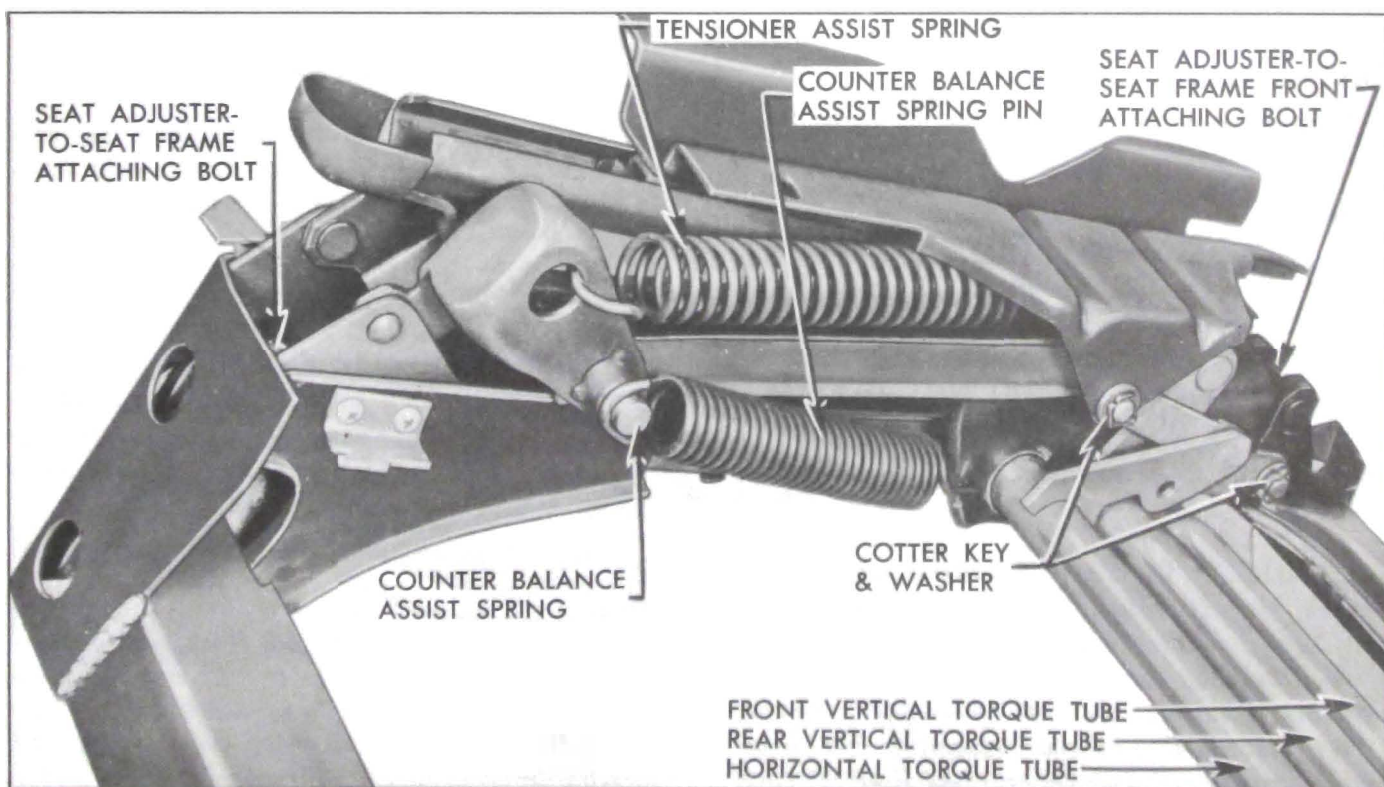

Figure 13-80—Front Seat Adjuster—Right
3. Remove counter balance assist spring from both seat adjusters and tensioner assist spring from right seat adjuster, Fig. 13-80 and 13-81.
4. Operate seat adjusters so that both front and rear seat adjuster-to-seat frame attaching bolts, Fig. 13-80 and 13-81, are accessible for removal, then disconnect ground wire and control harness feed wire from power source.
their level position. If removing left adjuster remove retainer securing actuator to support pin, Fig. 13-80.
2. Connect power to control harness feed wire and ground seat frame. Operate seat adjusters so that front of seat would be down, rear of seat up, and seat in full forward position. Remove counter balance assist spring from both seat adjusters and tensioner assist spring from right seat adjuster, Fig. 13-80.